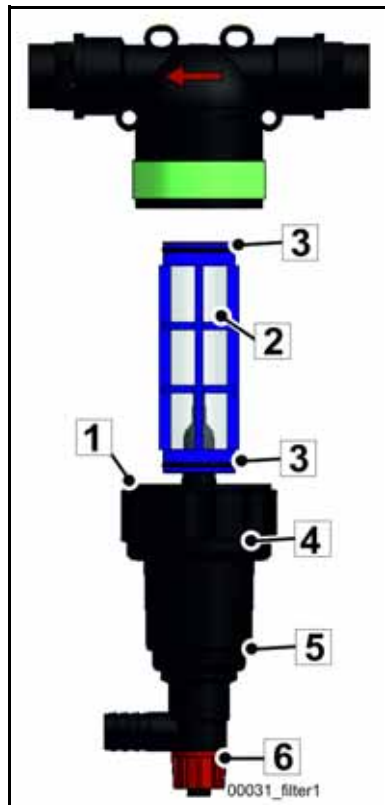

Fig. 576 Suction filter
- Loosen the housing (5) (**Fig. 576**) by hand.
- Remove the screen (2) (**Fig. 576**) from the housing of the suction filter.
- Check and replace the O-rings (1+3) (**Fig. 576**), if necessary.
Caption for suction filter (Fig. 576)